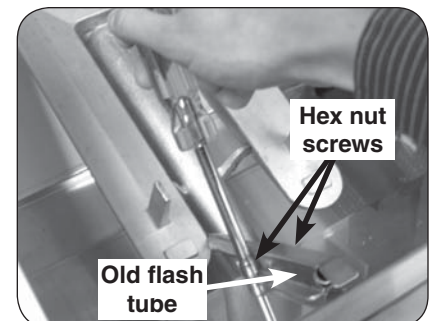

Fig. 1-2 Remove the flash tube
4. Remove the flash tube by removing the two hex nut screws using the 1/4" hex nut driver; pulling it directly away from the grill fire wall and off the mounting pin and the igniter electrode (see Fig. 1-2). Retain screws for installation.